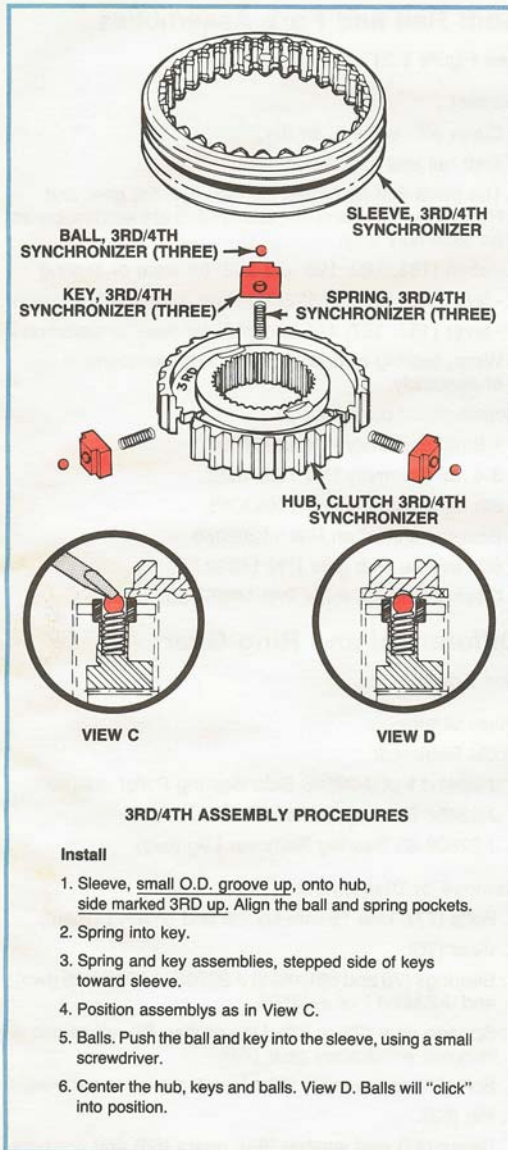

Figure 5-19, 3rd/4th Gear Synchronizer Components.
- 3rd/4th gear synchronizer assembly, Figure 5-19.